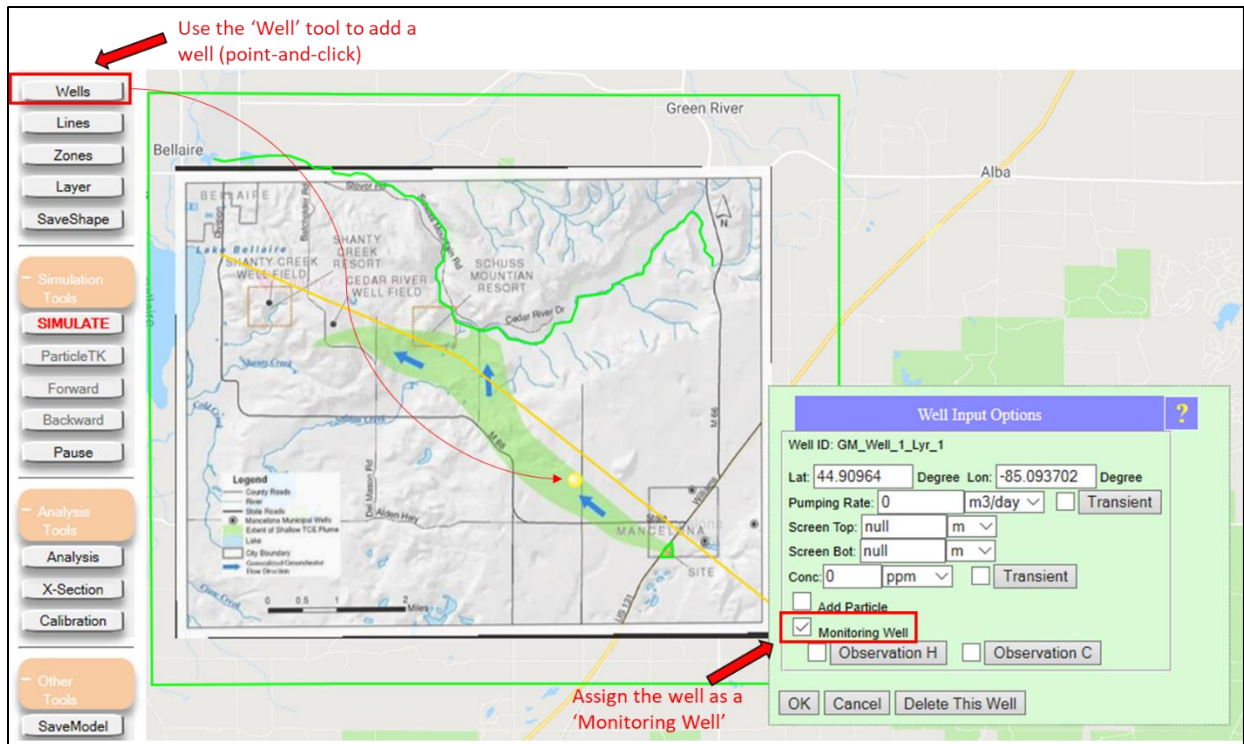

Figure 16. Adding a monitoring well using the 'DrawWells' tool ('Conceptual Model Tools' > 'Wells' > 'DrawWell') and the Well Input Options menu.
- Check the box next to 'Monitoring Well' (see Figure 16).
You may also notice that the simulated plume is not "pulled" to the west as field data/site map suggests in does in reality. This is because the model does not simulate the Cedar River well field near Shanty Creek Resort. Wells can be added to the model using the 'DrawWell' tool ('Conceptual Model Tools' > 'Wells' > 'DrawWell') – see Figure 16.